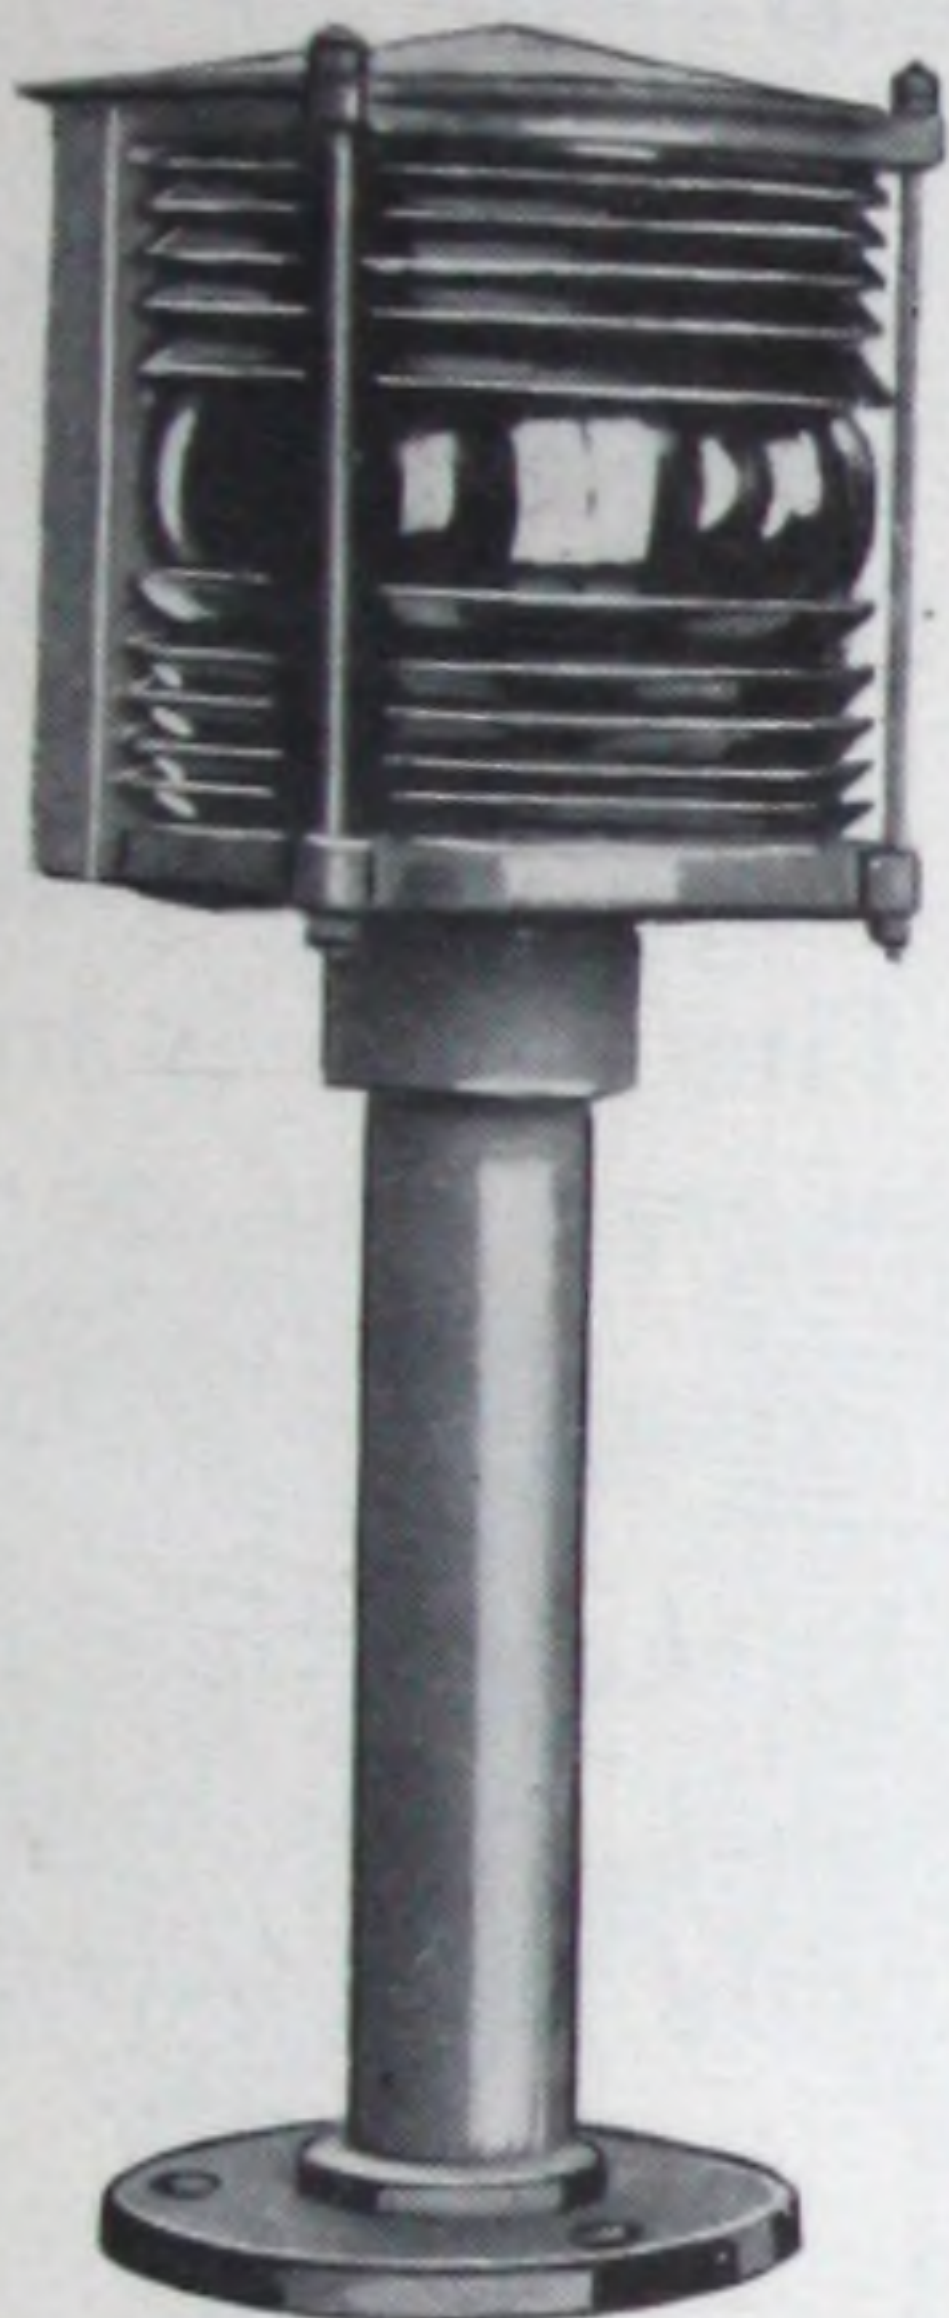

FIG. 1
- Fig. 1 Standard Pier Lamp (red)